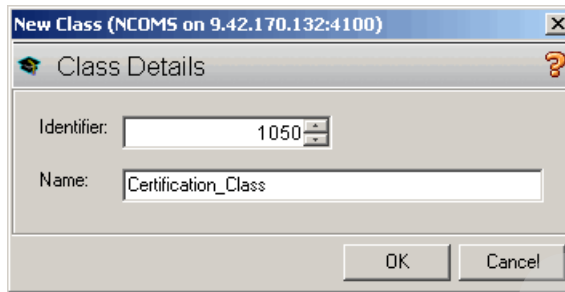

Figure 4-48 Add Class window
2. In the new class window shown in Figure 4-48, perform the following steps: